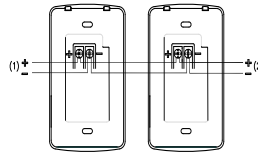
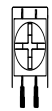

Figure 2 LED Strobe Wiring
Figure 3 Wire Connection
• Break all in-out wire runs on supervised circuits to ensure integrity of circuit supervision as shown in Figure 3. The polarity shown in Figure 2, the wiring diagram, is for the operation of the appliances. The polarity is reversed by the FACP during supervision.